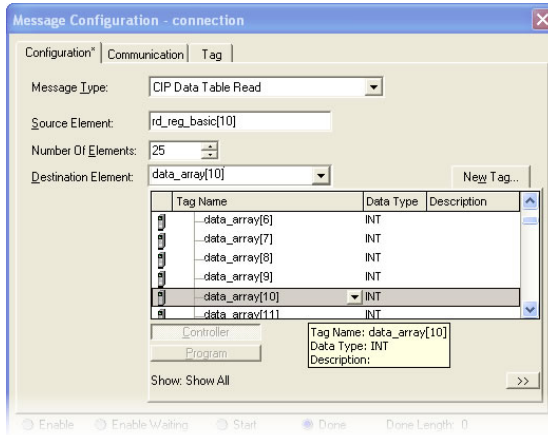

Figure 99: Selecting the Destination Element
- For the Destination Element, either directly type in “data_array[10]”, or select element #10 in the data_array tag via the drop-down box (refer to Figure 99). The destination could be any offset in the data_array tag, as long as the offset plus the Number Of Elements (25) does not exceed the tag’s defined size (100).